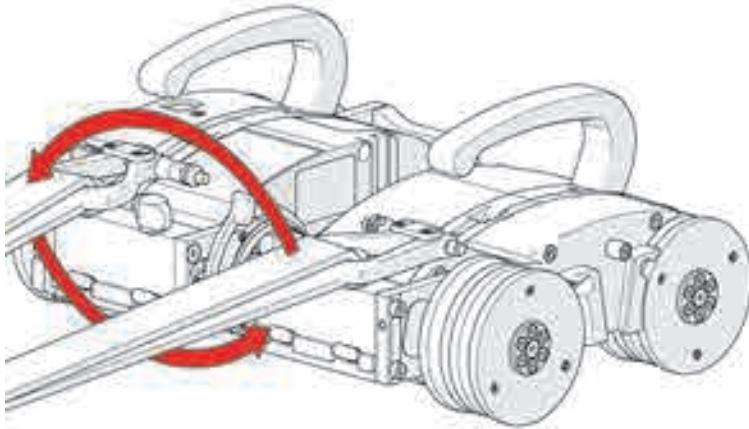

Figure 1-7 Reversing the shackle orientation for low-profile scanning
- ◆ Reverse the lifting sling and shackles so the shackles are free to lay down flat, allowing for low-profile sling setup (see Figure 1-7 on page 37).